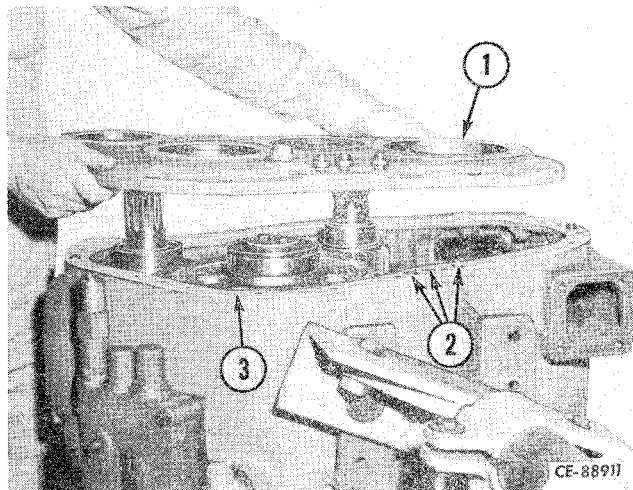

Figure 4-75
Install the cover gasket (3, Fig. 4-75) and "O" rings (2) at pressure ports. Place the cover (1) in position and tap in place with a soft mallet. Install cap screws and tighten to recommended torque (refer to "SPECIAL TORQUES").